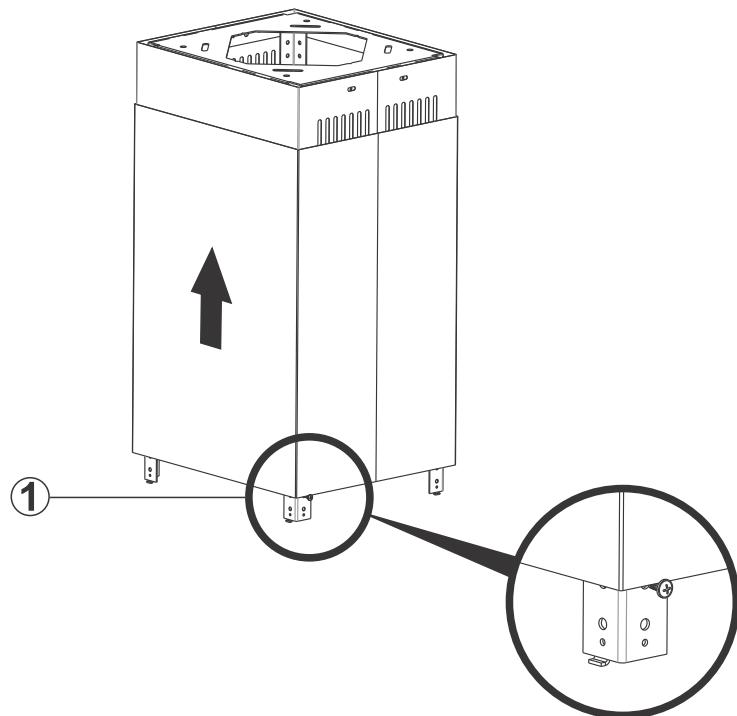

Fig. 12
1. ➔ Match sheet metal flues of the product to product hanging bars (Fig. 12).
2. ➔ Install 3.5 x 9.5 screw (1) to product hanging bar and leave sheet metal flues on the screw for sheet metal flues to remain fixed on hanging bars before installation (Fig. 12).
1. ➤ Remove the sheet metal flue fixing screw (Fig. 12).